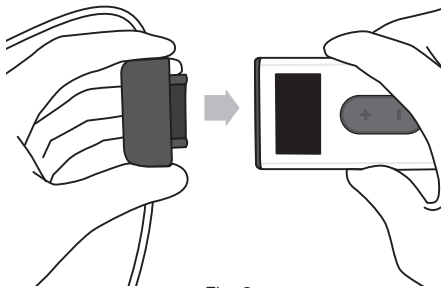

Fig. 3
12. Attach the pump head to the Passio Handheld Control Unit. (Figure 3) Place the Passio Handheld Control Unit and collection bag at or below the level of the chest for draining.